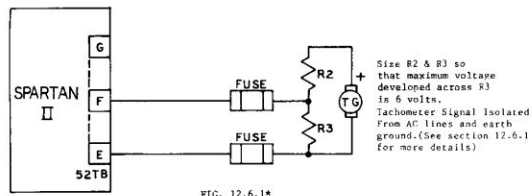

FIG. 12.6.1*
- b) Connect the external signal source to 52TB through a transducer circuit as given per Figure 12.6.1 or 12.6.2